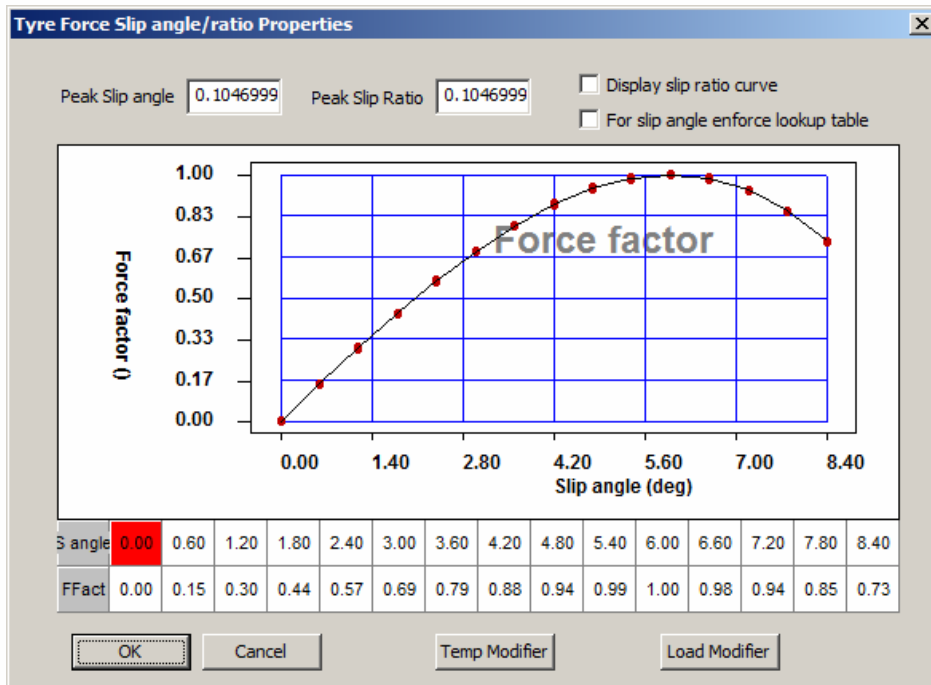
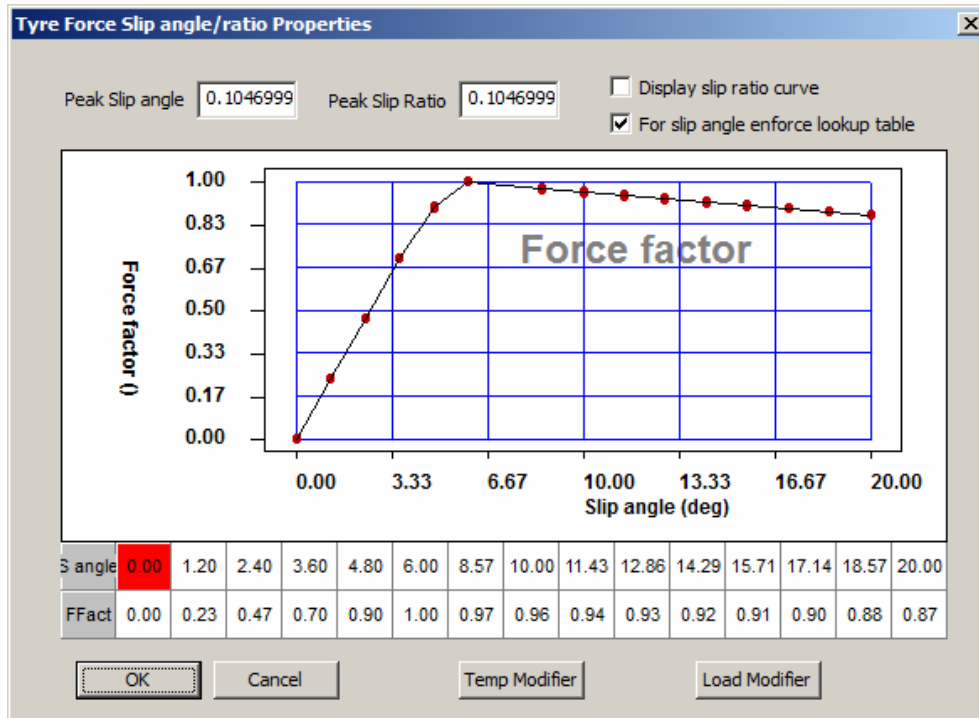

Fig 5a - Road course tyre
Fig 5b - Rally tyre
Equation (14) is the drift feasibility equation. This won't necessarily tell you the optimum slip angle you need to be at for drifting. However it will tell you if your tyre can actually do it. As a case in point consider Fig 5a which is a road course tyre and Fig 5b which is a rally tyre. Evaluating equation (14) for both of these curves show that Fig 5a has an optimum slip angle of 6.2° and Fig 5b has an optimum slip angle of 16° . Also a tip for young players here. Do this numerically. List out $R(\alpha)$ and the subsequent derivatives. If you try and do it analytically you'll drive yourself nuts. This is the first step in seeing if it is worth your while to go sideways or not.